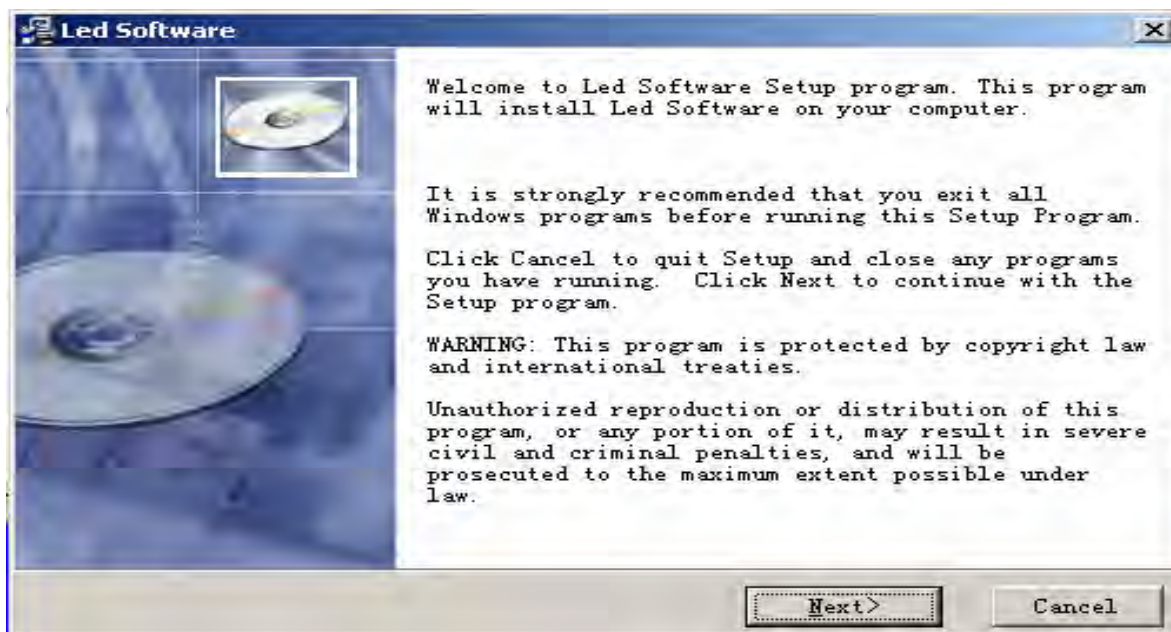

Figure 4-2
2). Choose “Install Led studio” to start installation guidance, as shown in below figure 4-2. And the serial no. is 888888.